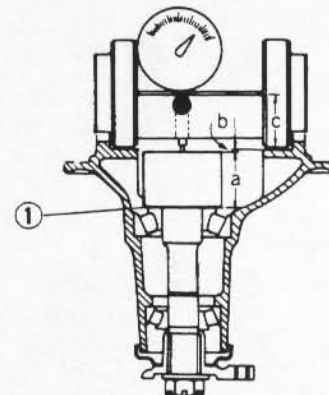

Fig. 16-21-3
- 4) Referring to Fig. 16-21-3, note that three dimensions are involved: "a" "b" and "c". The value of "b" is unknown, and is to be determined now for calculating the required thickness of shims. The values of "a" and "c" are given: the sum, "a" + "c", is 94 mm, which is indicated on the dummy tool.
5) Shim stock is available in twelve selective thicknesses. Select one or two shim(s) from the below to obtain the closest thickness to above required thickness, and insert selected shim piece(s) into clearance indicated as Fig. 16-21-3- ①.